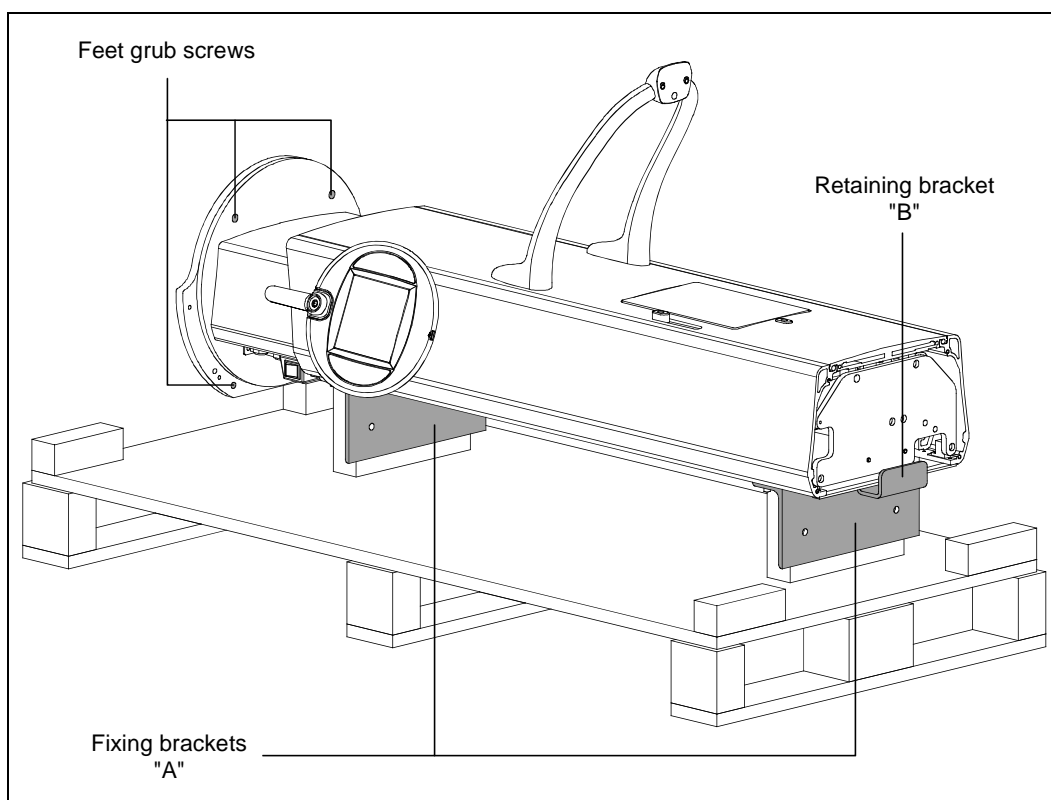

Figure 6-2
The column is delivered in a carton box containing the column itself, the patient support arm and the keyboard. All those parts are fixed to a wooden pallet using two fixing brackets (A); an additional retaining bracket (B) is fixed at the upper part of the column (Figure 6-2). Verify the presence of the four feet grub screws in the lower side of the column.
10. Acting on the feet grub screws (Figure 6-2), adjust them in order to level the feet on the floor. At the end, cover the grub screws with the provided cups.